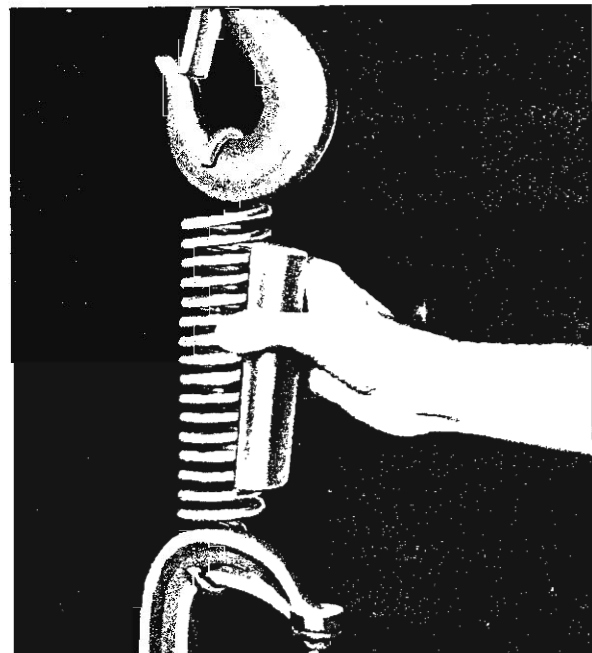

Fig. 142—Installing J-9559 in New Spring
2. Hook one end of spring in clamp and the other end in hook of chain hoist, "cherry-picker" or equivalent, as shown in Figure 142.